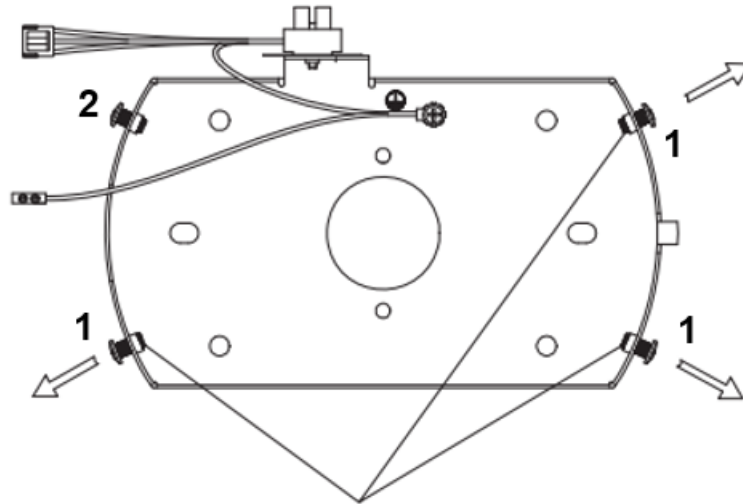

Fig. 7
- Loosen three canopy screws (1) and remove from the mounting bracket. (Fig.7)
- Loosen one canopy screw (2) by half thread from the mounting bracket. (For L-shape slot on canopy to be mounted). (Fig.7)